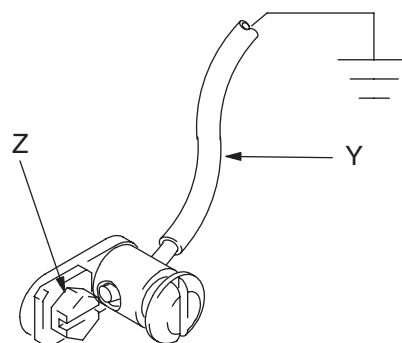

FIG. 1
Pump: Use a ground wire and clamp as shown in FIG. 1. Remove the ground screw (Z) and insert through the eye of the ring terminal at end of ground wire (Y). Fasten the screw back onto the pump and tighten securely. Connect the other end of the wire to a true earth ground. To order a ground wire and clamp, order Part No. 222011.